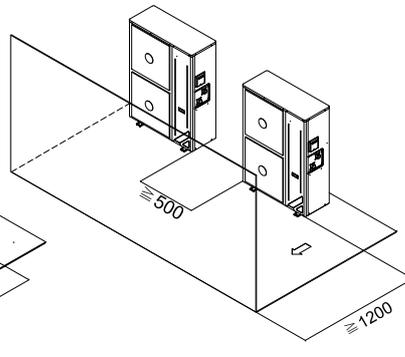

Figure 8
- b. Group installation (two or more units) (see Figure 8)